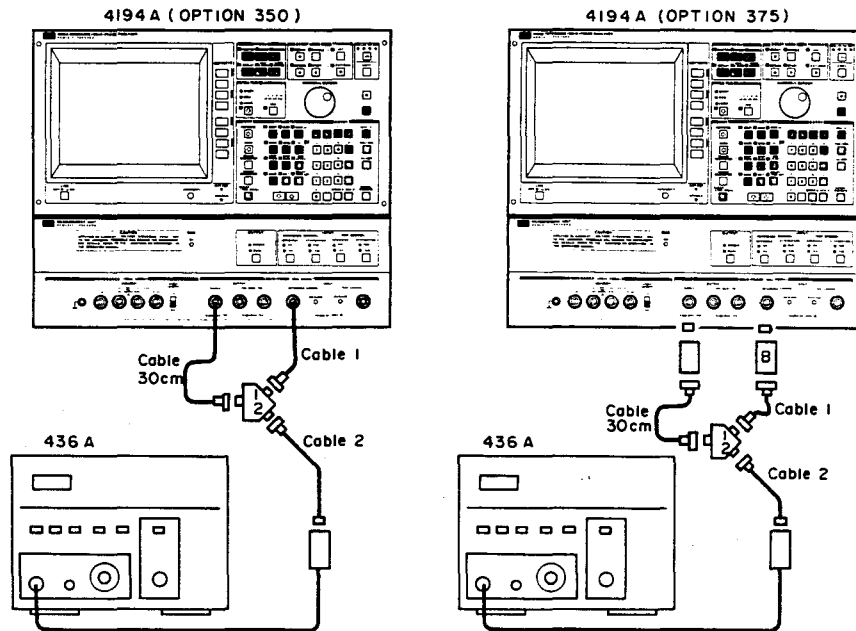

Figure 4-17. Amplitude Measurement Accuracy Test Setup 3
1. Set up the 4194A as shown in Figure 4-17 and set the 436A's measurement function to **dBm**.